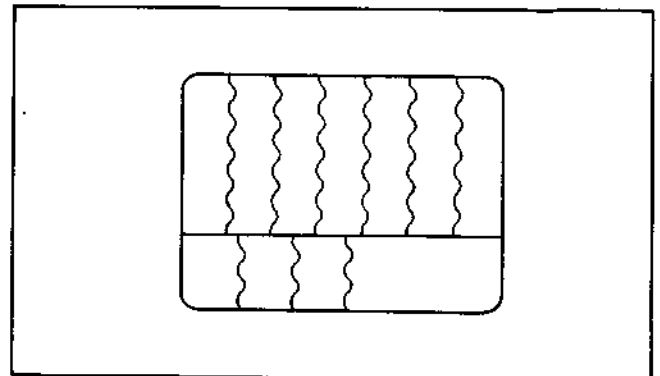

Fig. 1-5.
2. Be sure to install the fan on the drum prior to the tape playback check or the electrical system alignment. If the check or the alignment is performed without the fan installed, the picture on the monitor may bend, as shown in Fig. 1-5.